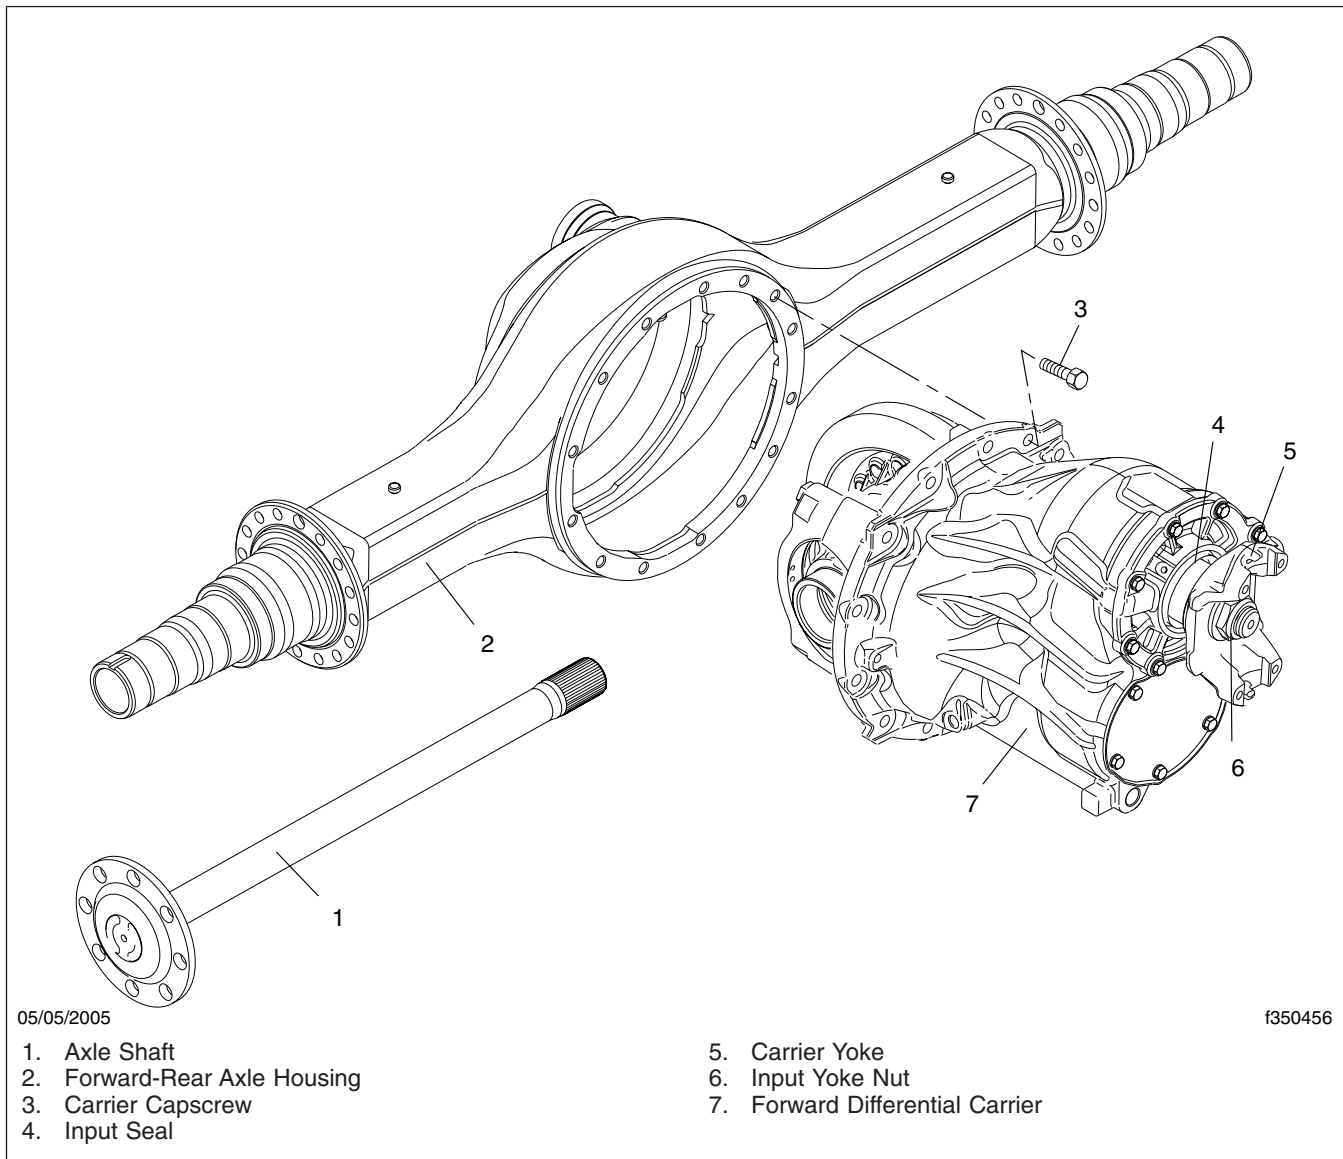

Fig. 1, Forward-Rear Axle Components
9. Remove the differential carrier from the axle housing, as follows. See Fig. 1.